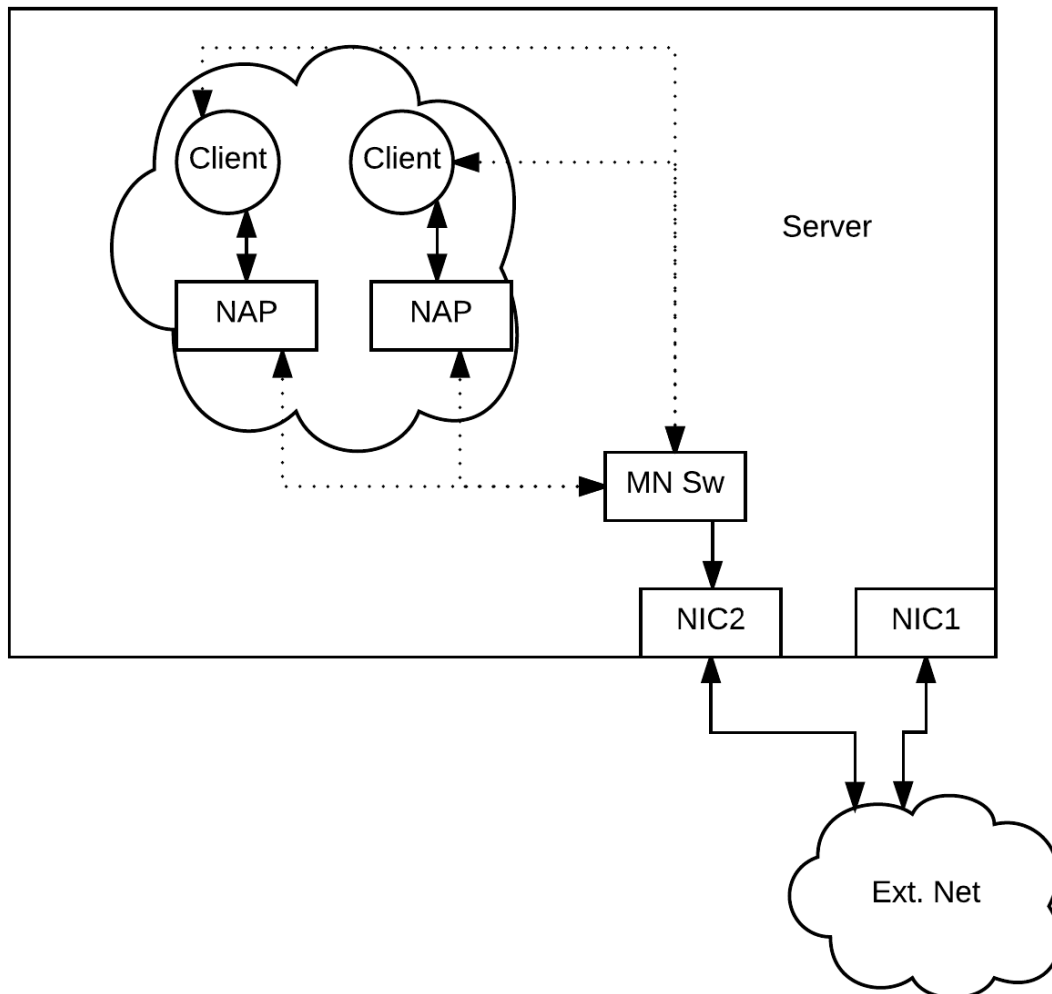

Figure 1: Example Mininet cluster that consists of two NAPs on one server for POINT emulation deployment.
The mininet deployment is a python based application that allows constructing clusters of mininet on multiple hosts and connect them to each other and to external networks. The topology of the mininets need to be defined in the tool, at the moment only one topology is defined, that is Direct Acyclic Graph (DAG), but other can be supported by developing the appropriate classes. Additionally, the tool also initiates mininet hosts that act as IP end points (particularly clients), each of which is connect directly to the respective NAP with an IP data-based link, while also connected directly to the main switch for remote management. Figure 1 shows an example mininet cluster on one host, that comprises two pairs of NAPs.
- The virtual interface is assigned to NIC1 of Figure 1 and it is used for remote management of the server
- The physical (untagged) interface is used for NIC2 of Figure 1 and is used for remote management of the mininet cluster